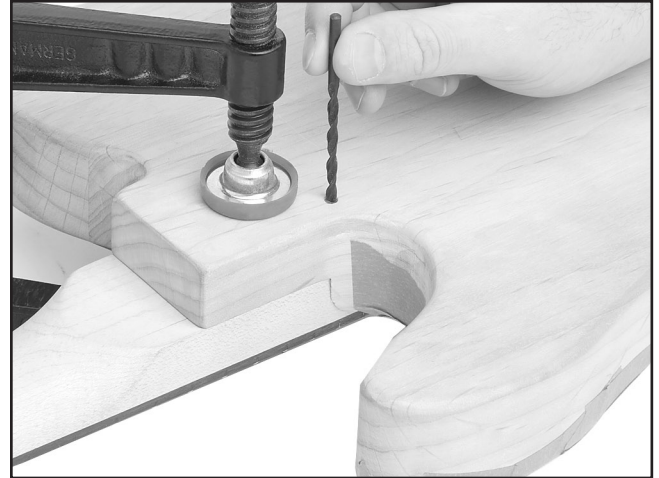

Figure 8. Making a pilot hole in the neck.
4. Insert a $\frac{1}{8}$ " drill bit into a neck hole (**Figure 8**). While pressing down slightly, twist the drill bit by hand to make a pilot hole.